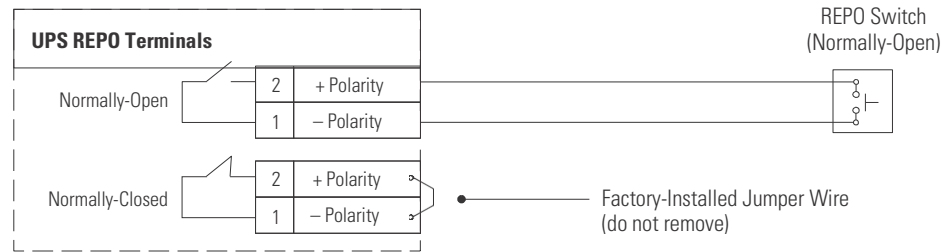
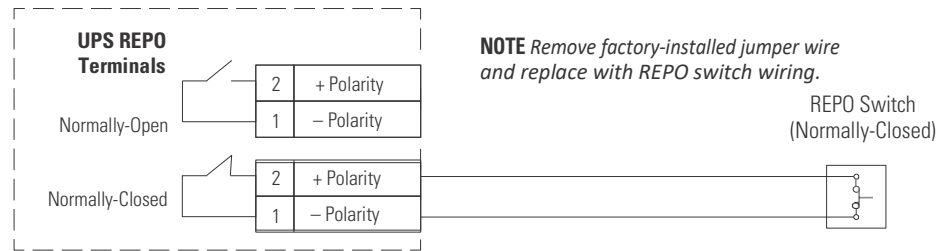

Figure 79. Normally-Open REPO Switch Wiring in a Standalone UPS
Figure 80. Normally-Closed REPO Switch Wiring in a Standalone UPS
- 3. Connect the appropriate external switch to the selected REPO contact. See Figure 79 for NO REPO wiring and Figure 80 for NC REPO wiring.
3. Connect Pin 1 to Pin 1 and connect Pin 2 to Pin 2 of each UPS in parallel for the selected REPO contacts, then connect the appropriate external switch to the selected REPO contact. See Figure 79 for NO REPO wiring and Figure 80 for NC REPO wiring.